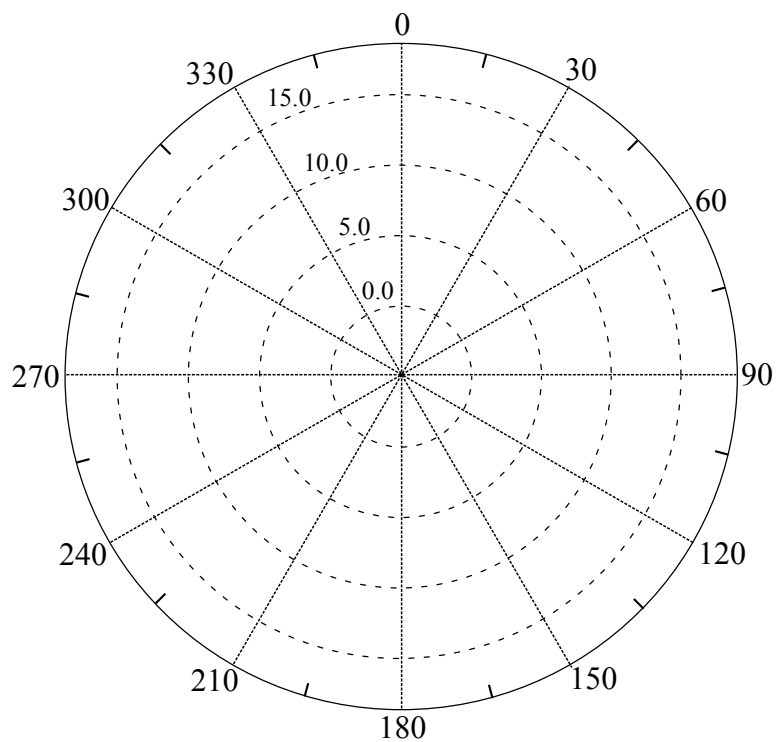

Figure 2: E-plane radiation pattern for $\lambda/2$ wire dipole operating at 600 MHz.
14. Now the program starts to plot the radiation pattern point by point. When it is done, sketch the pattern you got in Figure 2.